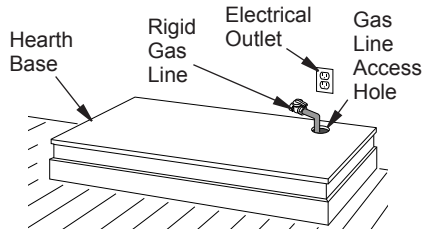

Figure 9 - Placing Hearth Base Accessory Against Wall
- When installing blower, install a properly grounded, 120 volt three-prong electrical outlet at fireplace location if an outlet is not there. If possible, locate outlet so cabinet mantel will cover it when installed (see Figure 9).
4. Place hearth base accessory against wall at installation location. Cut an access hole in hearth top to run flexible gas line to fireplace (see Figure 9, page 10). Make sure to locate access hole so cabinet mantel will cover it when installed.